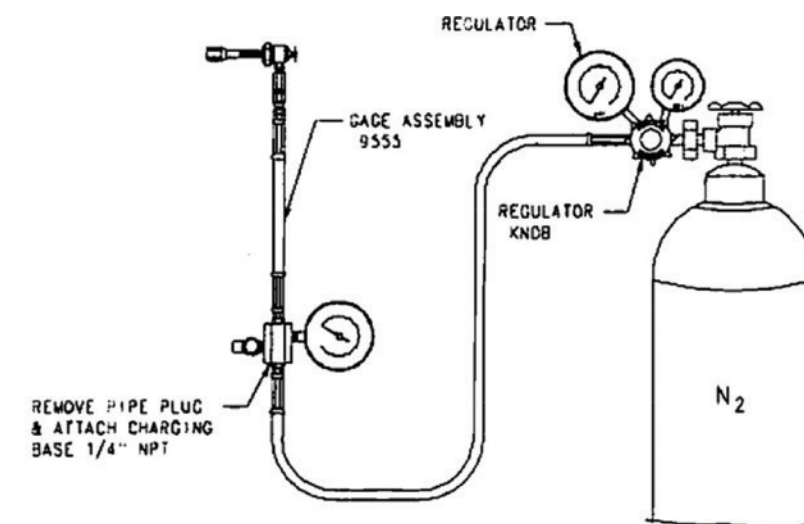

Figure 3
2. Remove gage assembly per Step h. in Section I. A., and attach inflating hose as shown in Figure 3. Remove the 1/4" NPT pipe plug and attach a suitable hose with regulator.